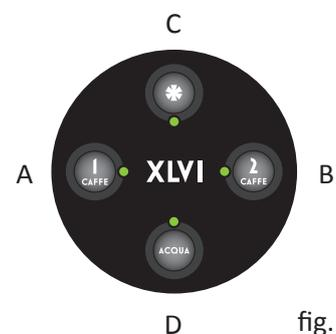

fig. 6
- To dispense water through the groups in the electronic version press the button (C) on the push-button panel (fig.6). The button (C) acts as a switch to both dispense continually and stop dispensing.
- To dispense steam lower the levers (3). When you want to stop the steam return levers (3) to their starting position.
- To dispense water in the electronic version press the button (D) on the push-button panel (fig.6).